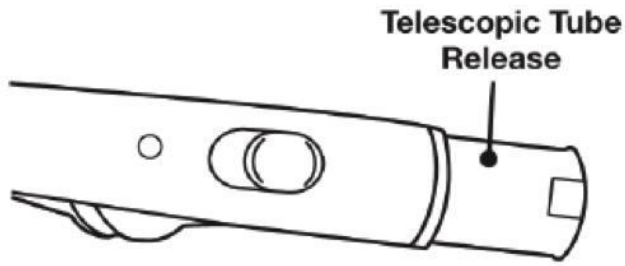

Fig 7
3. To remove the telescopic tube from the flexible hose, press on the telescopic tube release button and pull it out. (Fig.7)